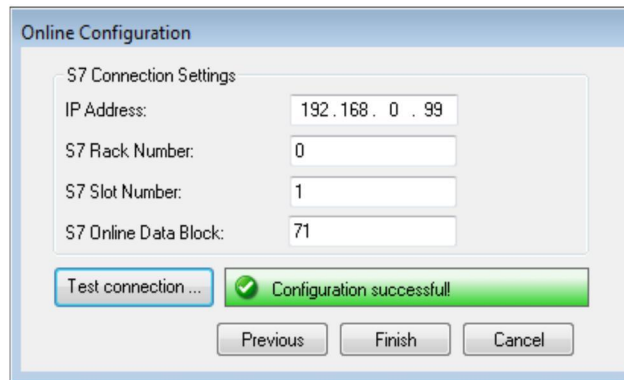

Figure 3-48 “Online Configuration” SAFECONF window
- Test the connection via the “Online Configuration” SAFECONF window (see Figure 3-48).